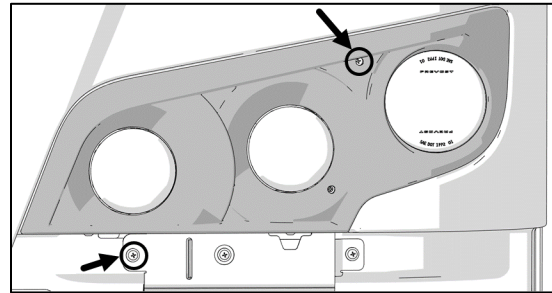

FIGURE 77: HEADLAMPS ASSEMBLY FIXING SCREWS
2. Unfasten the two screws (Figure 77) fixing the headlamps assembly then tilt the headlamps assembly down.
1. Unfasten the two screws (Figure 77) fixing the headlamps assembly and then tilt the headlamps assembly down.
1. Remove the two screws (Figure 77) fixing the headlamps assembly and then **tilt** the headlamps assembly down.